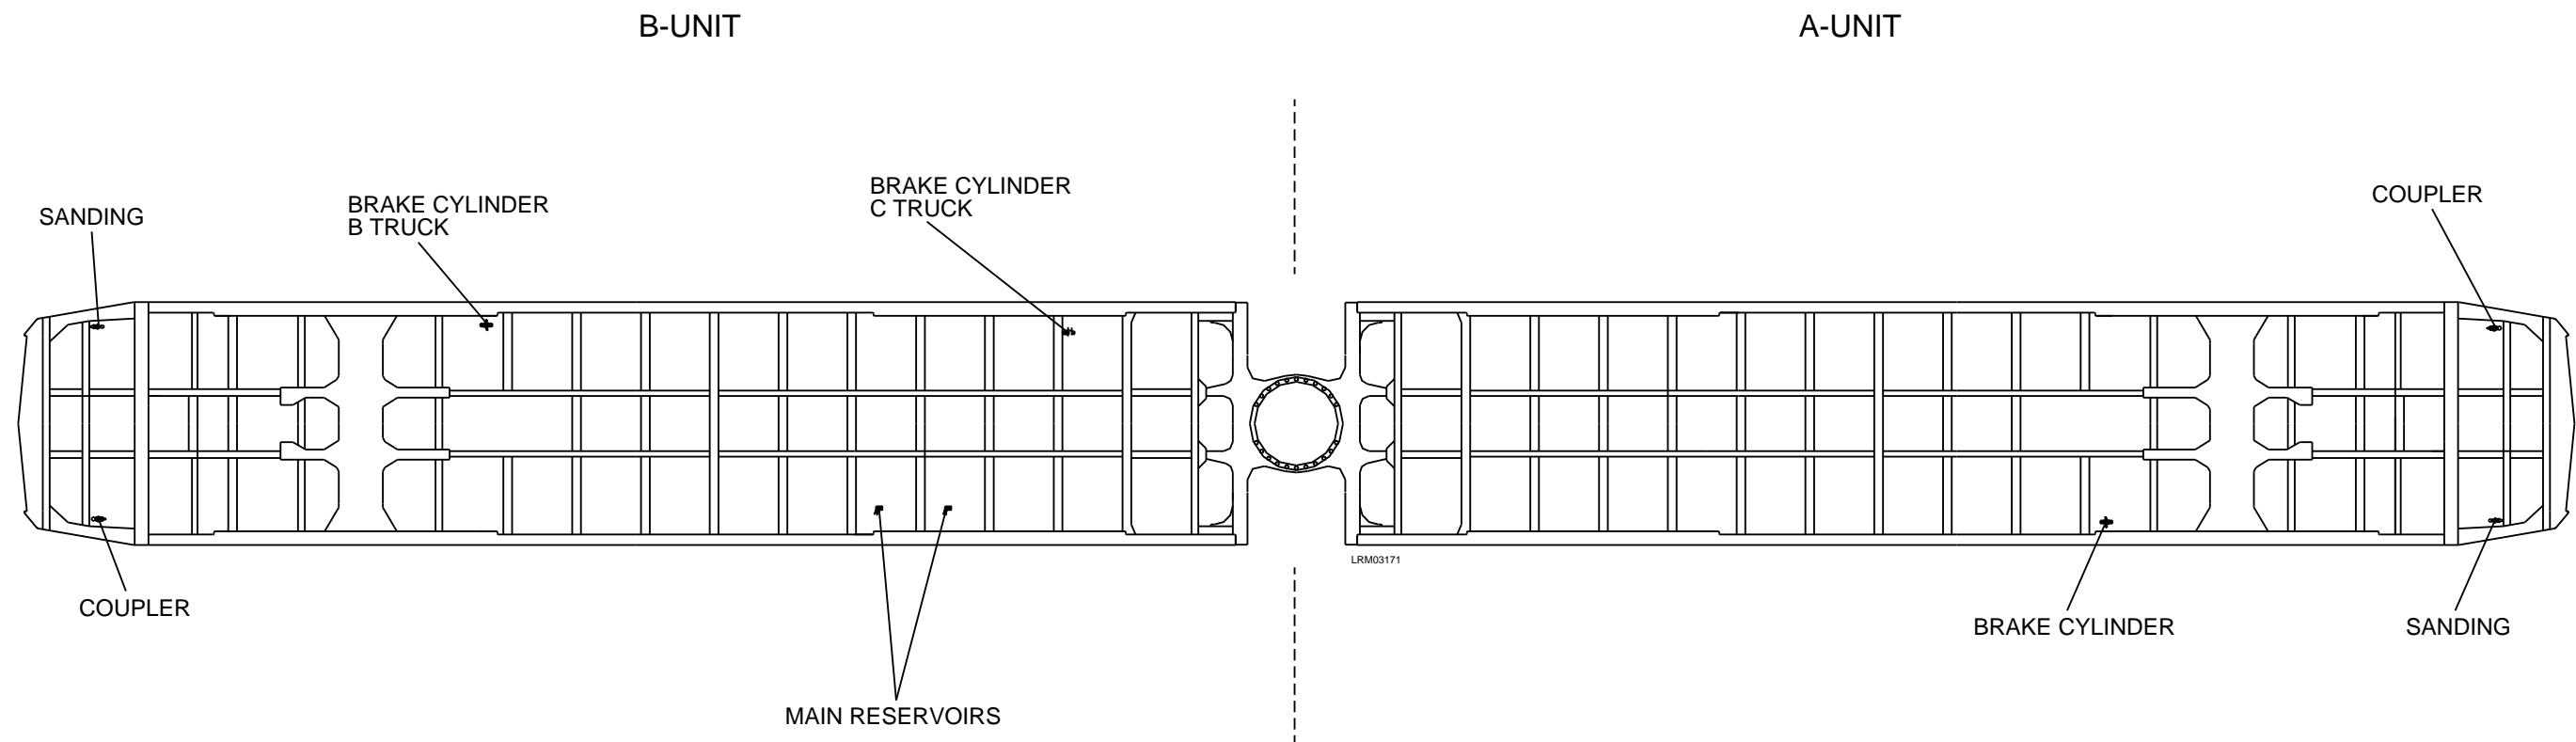

Figure 7-101: Cutout Cock Locations
2. Close the Coupler Cutout Cock by rotating the handle 90 degrees so that the indicator on the Cutout Cock handle is perpendicular to the airline. See Figure 7-101 for location of the Coupler Cutout Cock.
3. Disconnect the air connections to the Coupler (1).
4. Remove the four M24 ESNA nuts (5) and M24 plain washers (4), M24 x 170 bolts (2), and M24 plain washers (3).
5. Carefully remove the Coupler (1) from the mounting bracket (6).
1. Close the Sanding Cutout Cock by rotating the handle 90 degrees so that the indicator on the Cutout Cock handle is perpendicular to the airline. See Figure 7-101 for location of the Sanding Cutout Cock.
2. Close the Brake Cylinder Cutout Cock by rotating the handle 90 degrees so that the indicator on the Cutout Cock handle is perpendicular to the airline. See Figure 7-101 for location of the Brake Cylinder Cutout Cock.
3. Close the Brake Cylinder Cutout Cock by rotating the handle 90 degrees so that the indicator on the Cutout Cock handle is perpendicular to the airline. See Figure 7-101 for location of the Brake Cylinder Cutout Cock.
5. Carefully disconnect the fittings (8) from the Brake Control Unit (1).
6. Open the cover of the Brake Control Unit (1).
7. Remove the four M12 ESNA nuts (5) and M12 plain washers (4), M12 x 85 bolts (2), and M12 plain washers (3).
8. Carefully remove the Brake Control Unit (1) from the mounting bracket (6).
7. Remove the four M12 ESNA nuts (5) and M12 plain washers (4), M12 x 70 bolts (2), and M12 plain washers (3).